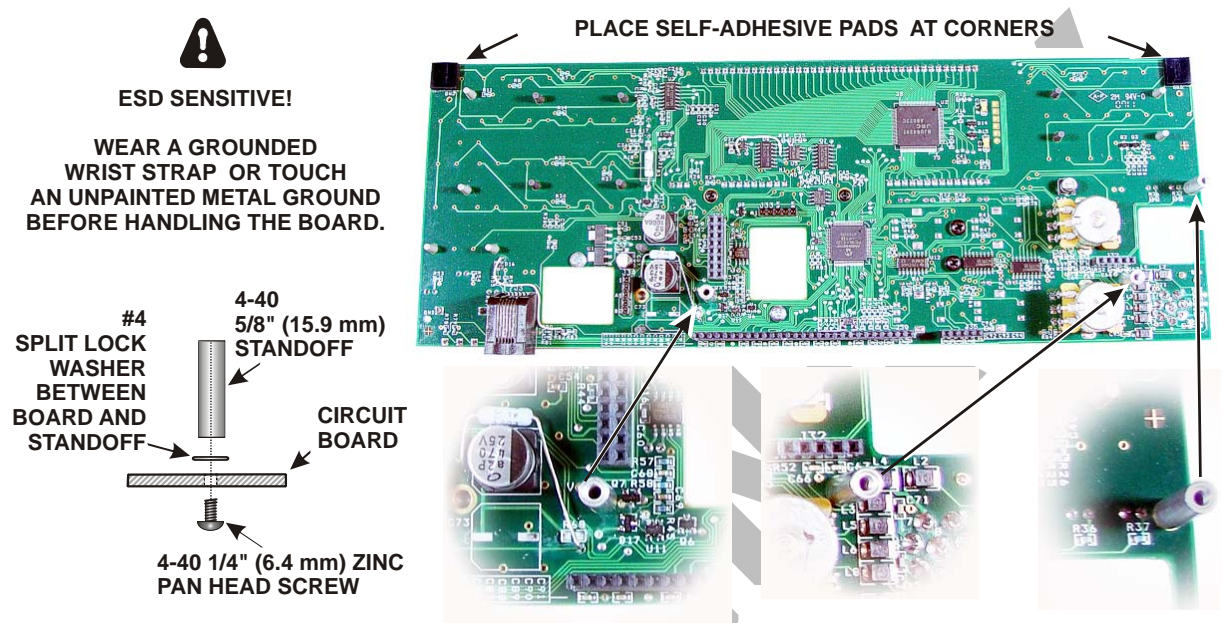

Figure 35. Preparing the Front Panel Board for Mounting, Part 1.
Remove the protective backing and mount the two self-adhesive pads in the corners on the back of the front panel board as shown in Figure 35. When removing the protective backing, be sure you do not pull the adhesive material off of the pad with the backing.
Mount three standoffs on the back of the front panel board as shown in Figure 35 . Place the lock washer between the standoff and board as shown.
- Three 4-40 5/8" (15.9 mm) standoffs are mounted on the back as shown in Figure 35.